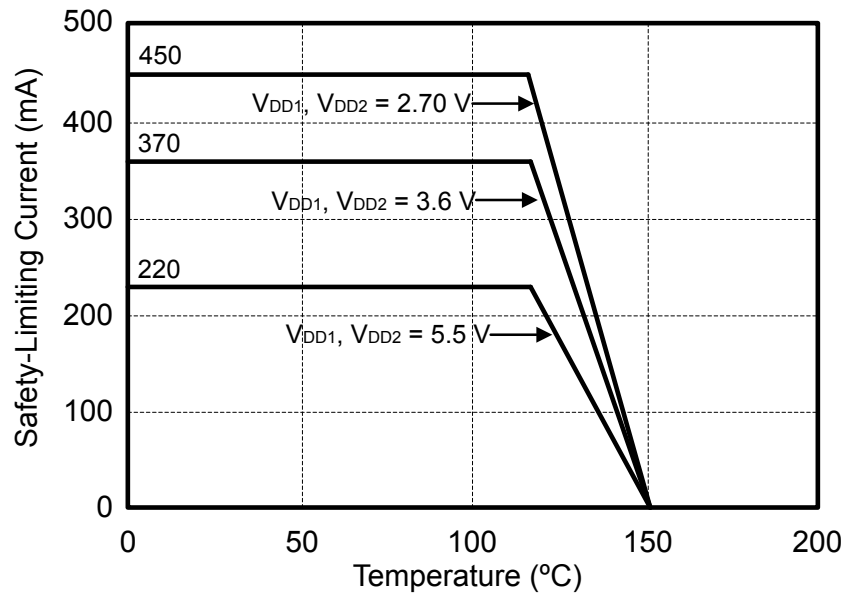

Figure 4.4. (WB SOIC-16) Thermal Derating Curve, Dependence of Safety Limiting Values with Case Temperature per DIN EN 60747-5-2
- Maximum value allowed in the event of a failure; also see the thermal derating curve in Figure 4.4 Figure 5.4 on page 28, Figure 4.5 Figure 5.5 on page 28 and Figure 4.6 Figure 5.6 on page 29.